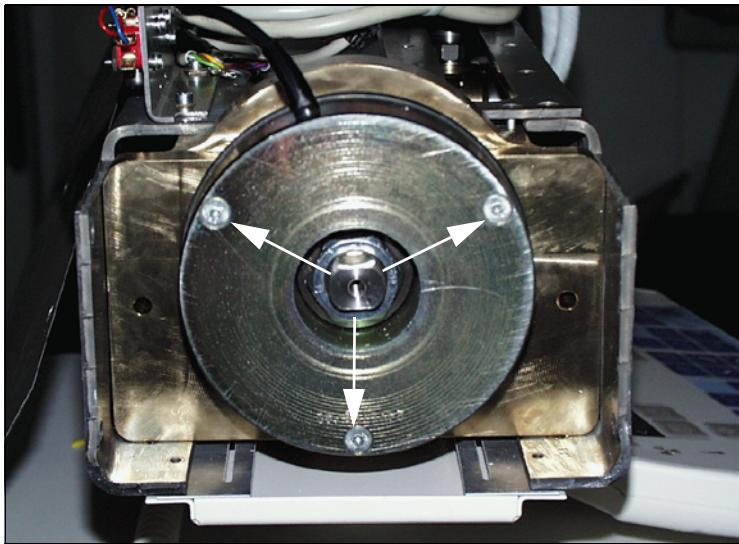

Fig. 3
- Remove the back cover with the handle for the horizontal lift movement after removing the 4 countersunk screws. The angulation brake magnet is now visible (Fig. 3).
- Remove the 3 attachment screws and remove the brake magnet (arrow/Fig. 3)